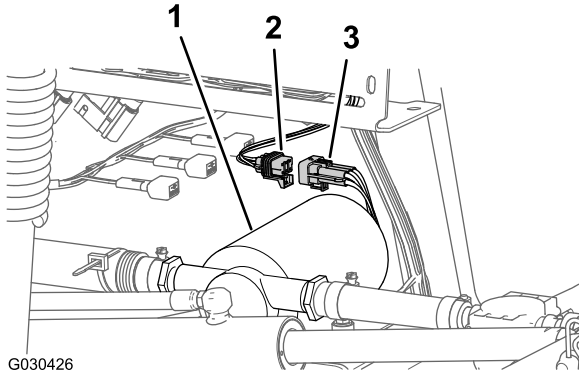

Figure 8
2. Disconnect the 6-pin connector of the rinse-pump harness from the 6-socket connector of the rear wire harness (Figure 8).